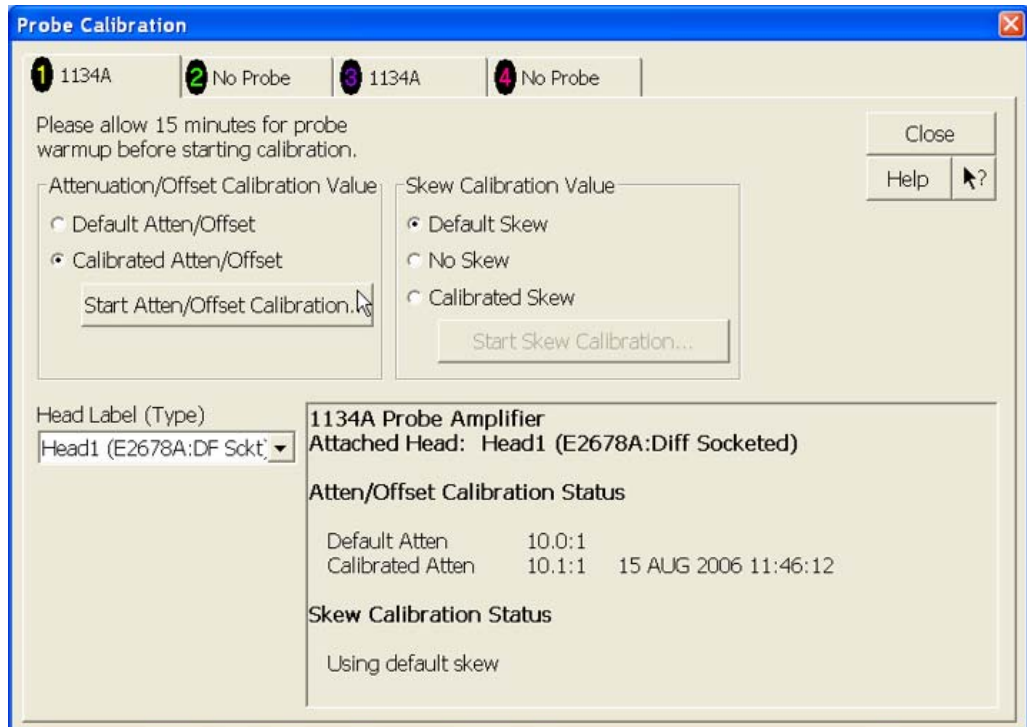

Figure 104 Probe Calibration Window.
- 4 Referring to Figure 104 and perform the following steps: